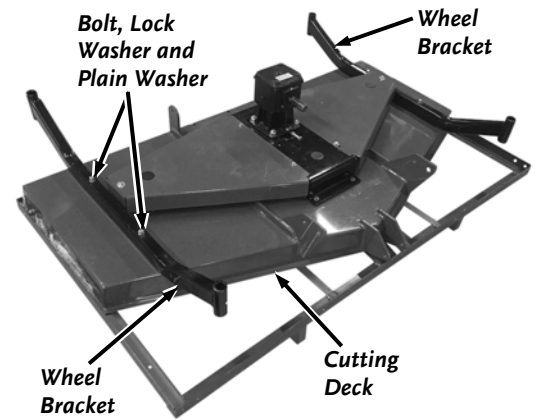

Figure 6
1. Position the two Wheel Brackets onto the Deck and secure with four M10 X 80 Bolts (#40822), M10 Lock Washers and M10 Plain Washers using a 16mm Wrench (**Figure 6**).